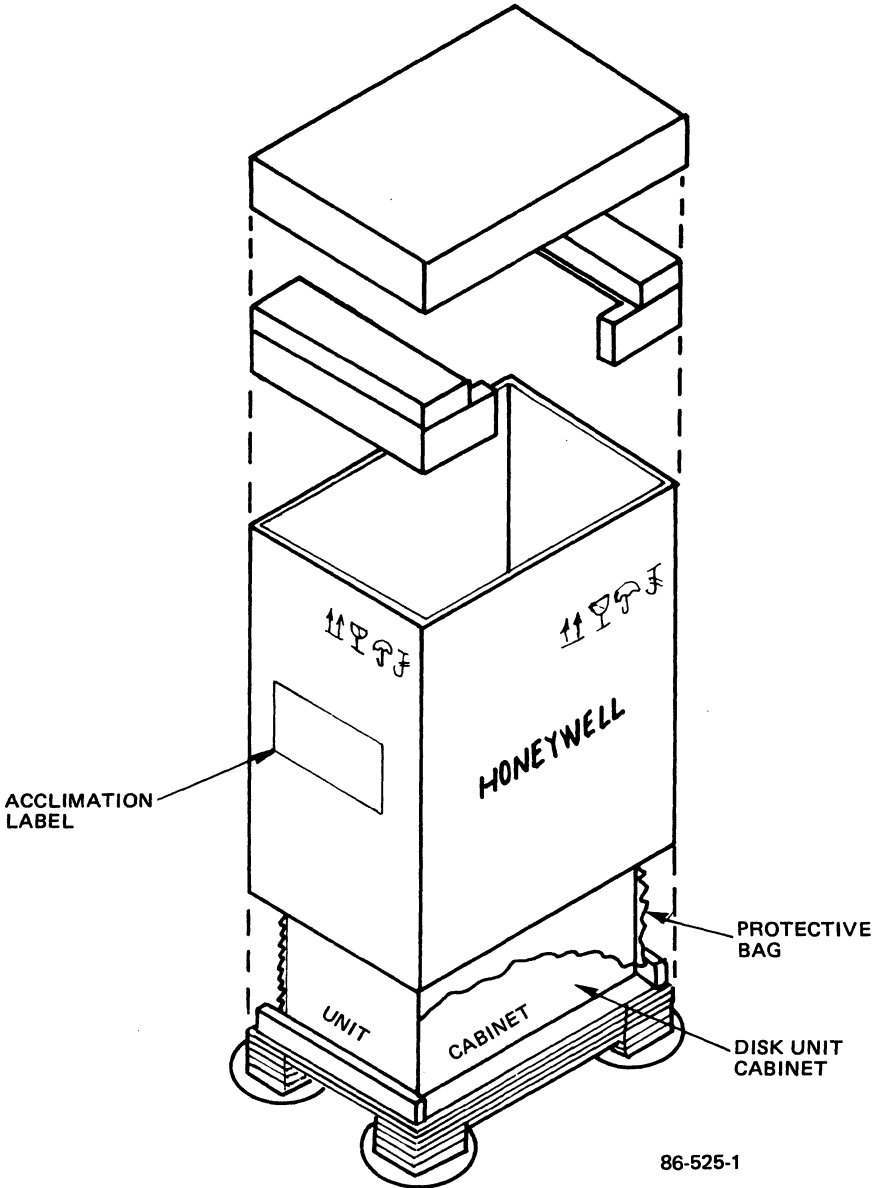

Figure 2-1. Unpacking the Subsystem
**Summary** This module provides the procedures required to unpack the disk unit subsystem, as shown in Figure 2-1 on the adjacent page.